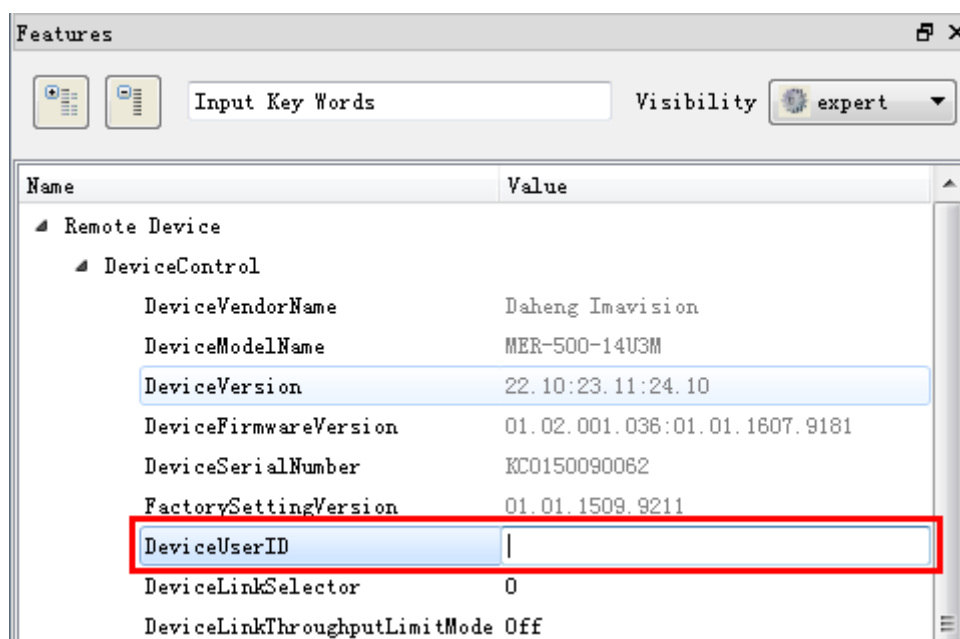

Figure 8-34 GalxyView software
- 1) Set by the GalxyView, as shown in the Figure 8-34.